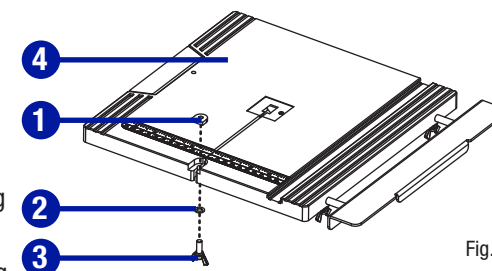

Fig. 5
- Remove the D-nut (1), flat washer (2) and wing screw (3) from the hole located in the front edge of the work table (4). (Fig. 5)
- Standing at the front of the band saw, slide the work table (4) past the blade (5) and through the slot moving from the right side of the work table to the left.
- Holding the work table with your left hand while pulling the table tilt adjustment knob (6) away from the saw frame, align the teeth on the table support assembly (7) with the teeth on the table tilt adjustment knob (6). Release the knob.
- Fit the pins on the frame into the slots of the table support assembly (7)
- Insert the washer (8) on the threaded end of the table tilt locking lever (9). Tighten the work table to the saw frame by turning the table tilt locking lever (9) clockwise.